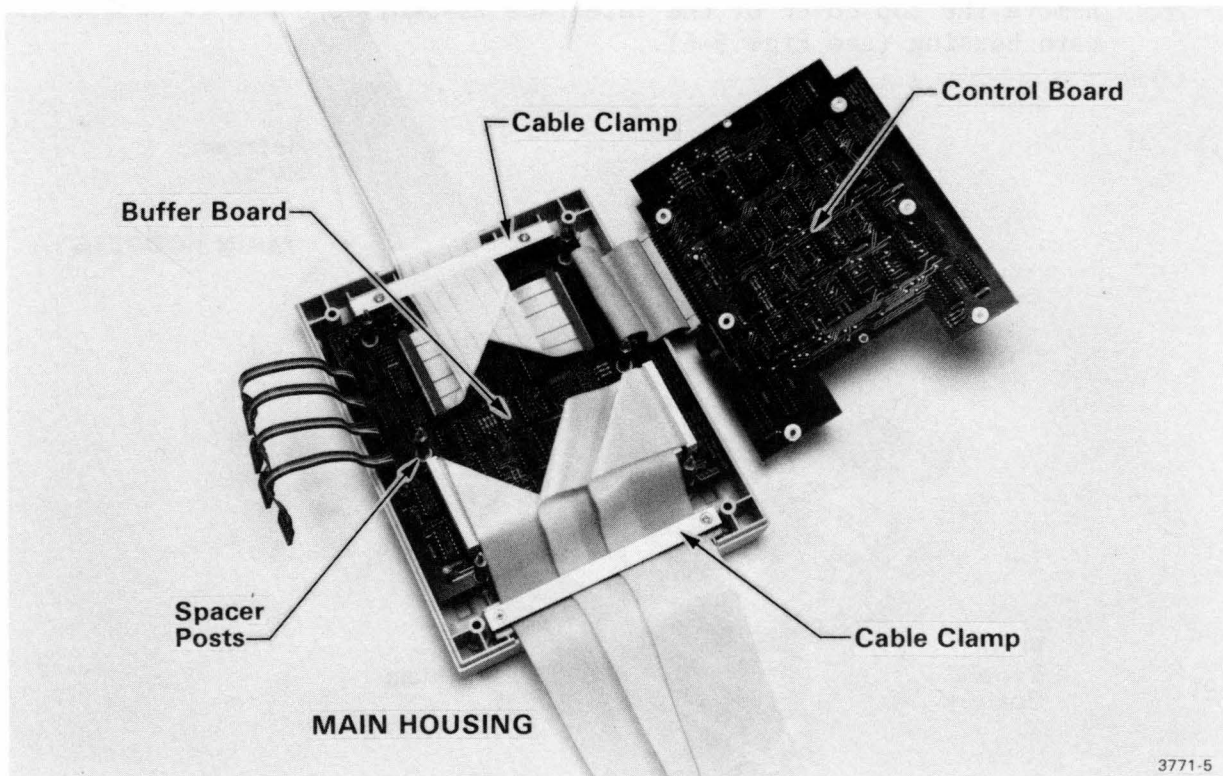

Fig. 8-7. Access to Control board and Buffer board.
7. Lift the Control board away from the main housing and drape it to one side, as shown in Fig. 8-7. Take care not to damage the interconnecting ribbon cable.